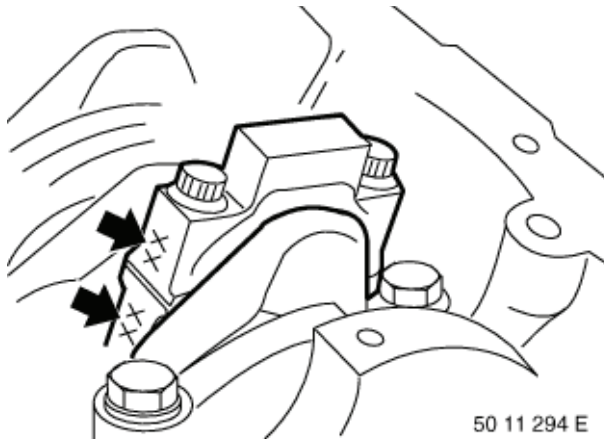

Figure 5-62
12. Install the connecting rod cap. Ensure the connecting rod and cap have the same marking number and that the marks are on the same side (**Figure 5-62**).